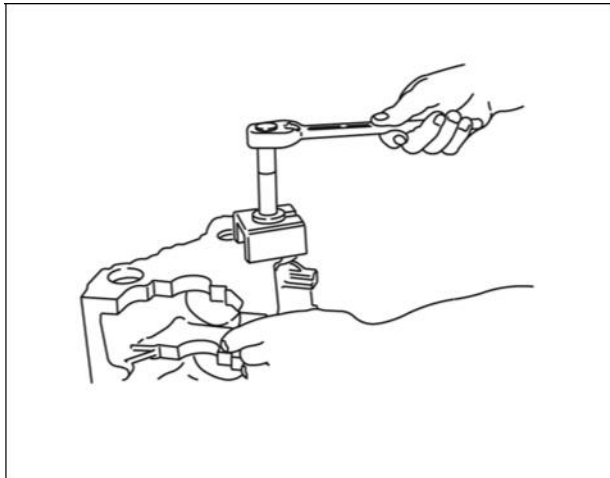

Figure 6
1. Using Camshaft Bearing Puller #19421, remove camshaft bearing (Figure 6).